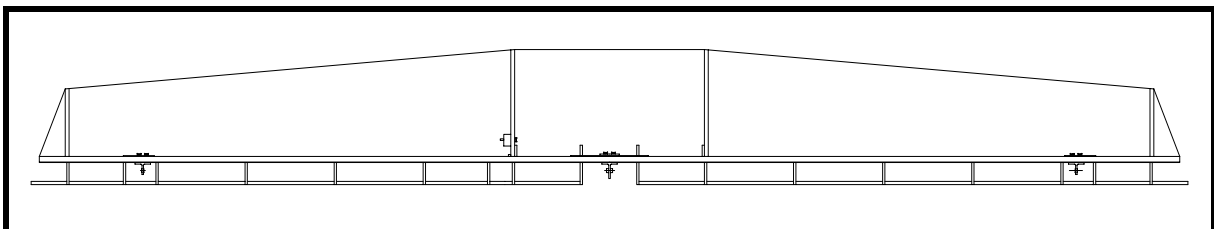

Figure 4
- ❑ Install P/N 403-4 trailing edge ribs at Sta. 1. The plywood should be on the outboard face of these ribs. (If you wish, you may also glue P/N 404-7 ribs in place at the same time, per the following step.) See Figure 4.
- ❑ Install P/N 404-7 ribs. See Figure 4.
- ❑ Loop an alignment string along the trailing edge of the trailing edge ribs at Sta. 1 and Sta. 6. See Figure 4. You will need to clamp a brace against the ribs to steady them from the tension of the string.